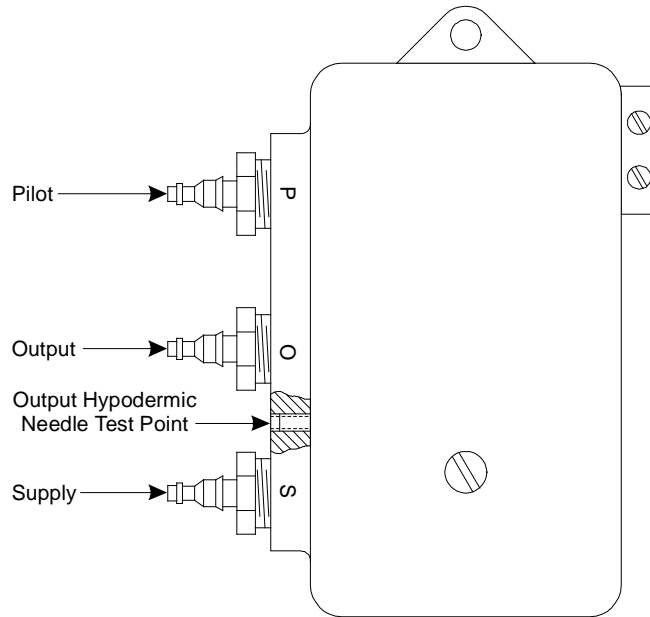

Figure 2: V-9502 Positioner Air Connections
2. Referring to Figure 2, remove the straight barbed fitting from the actuator and replace it with the elbow barbed fitting provided.
8. Referring to Figure 2, connect the 20 psig (138 kPa) supply to the Supply "S" port and the control signal to the Pilot "P" port.